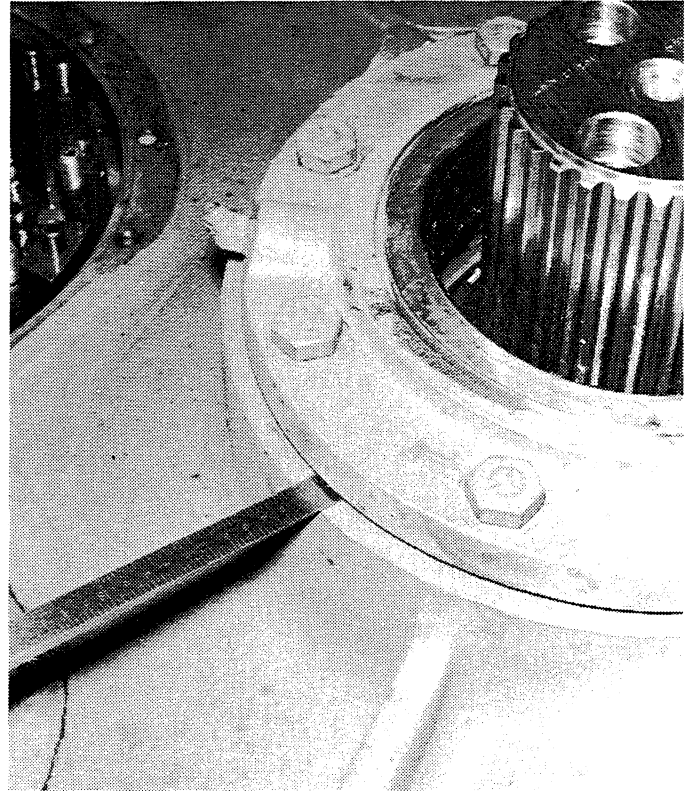

Figure 9-3. Measuring Gap Between Bearing Retainer and Main Housing.
9. Secure the retainer with hex-head screws (12), tightened finger tight.
10. Use a thickness gauge to determine the gap between the bearing retainer and the main housing assembly. See Figure 9-3. Measure the gap in four equally spaced places. Take an average of these measurements, and add 0.003 to 0.006 inch to determine the amount of shim for a trial shim-pack.